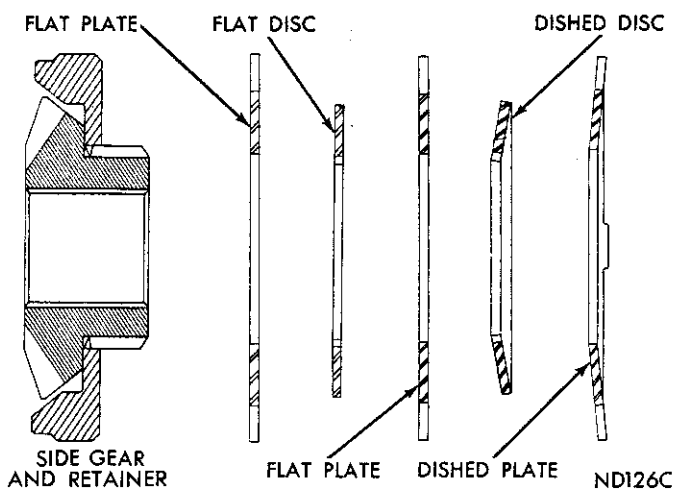

Fig. 32—Arrangement of Plates and Discs
(1) Position clutch plates and discs in their proper location in each half of the case (Fig. 32).
(2) Place side gears in their retainers. Insert splines of retainers through the splines of clutch discs.
(3) Place aligning pin through one axle shaft thrust spacer. Assemble pinion shafts on aligning pin.
(4) Place pinion gears on shafts and install assembly in drive gear half of case.
(5) Slide cap half of case over the edge of bench far enough to insert one finger up through the assembly to hold it together. Place the assembly on drive gear half, matching scribe marks.
(6) Make sure markings on each differential case half coincide. Install the differential case bolts and turn in a few threads.
(7) With shafts installed, center the cross shafts between the two ramp surfaces in differential case. Tighten differential case bolts evenly by alternately turning opposite bolts until all are tightened to 45 foot-pounds. To keep splines of the side gear and clutch plates in exact alignment during the tightening procedure, move axle shafts back and forth as bolts are being tightened. After assembly, slight misalignments of the splines can be corrected by moving axle shafts back and forth until free. Remove axle shafts.